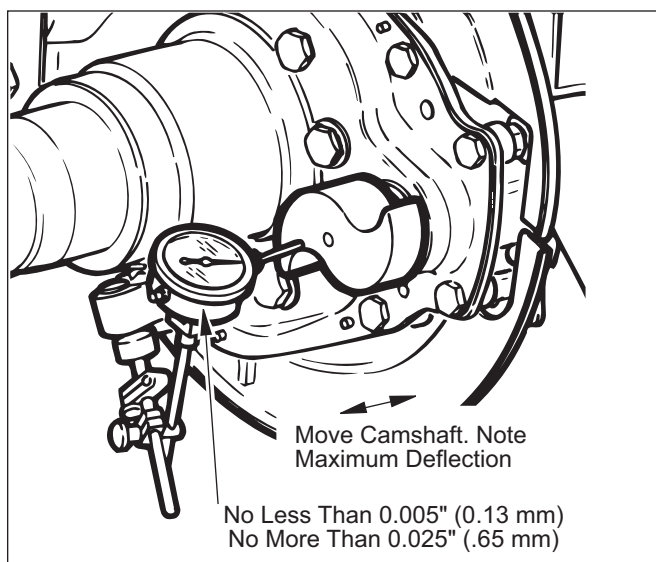

Figure 55. Brake Adjuster End Play Check
6. Mount a suitable dial indicator with plunger referencing end of cam head. Refer to Figure 55.